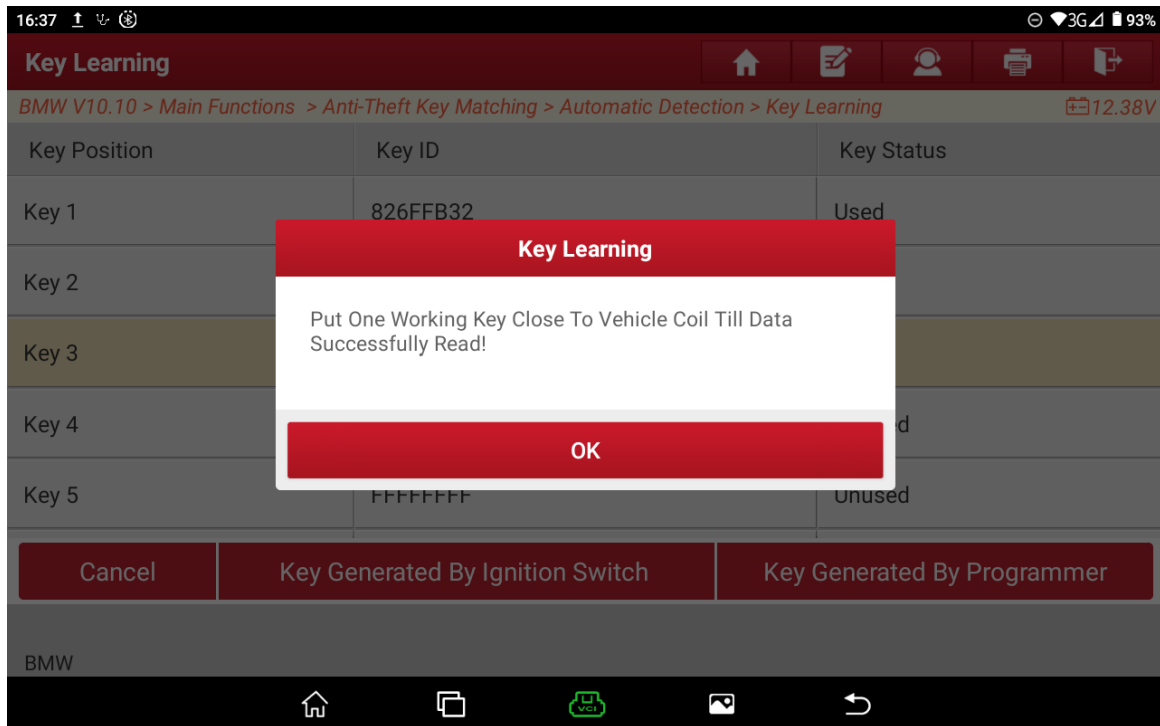

Figure 37
37. Put one working key close to the vehicle key sensing point until the data is successfully read, as shown in Figure 37.